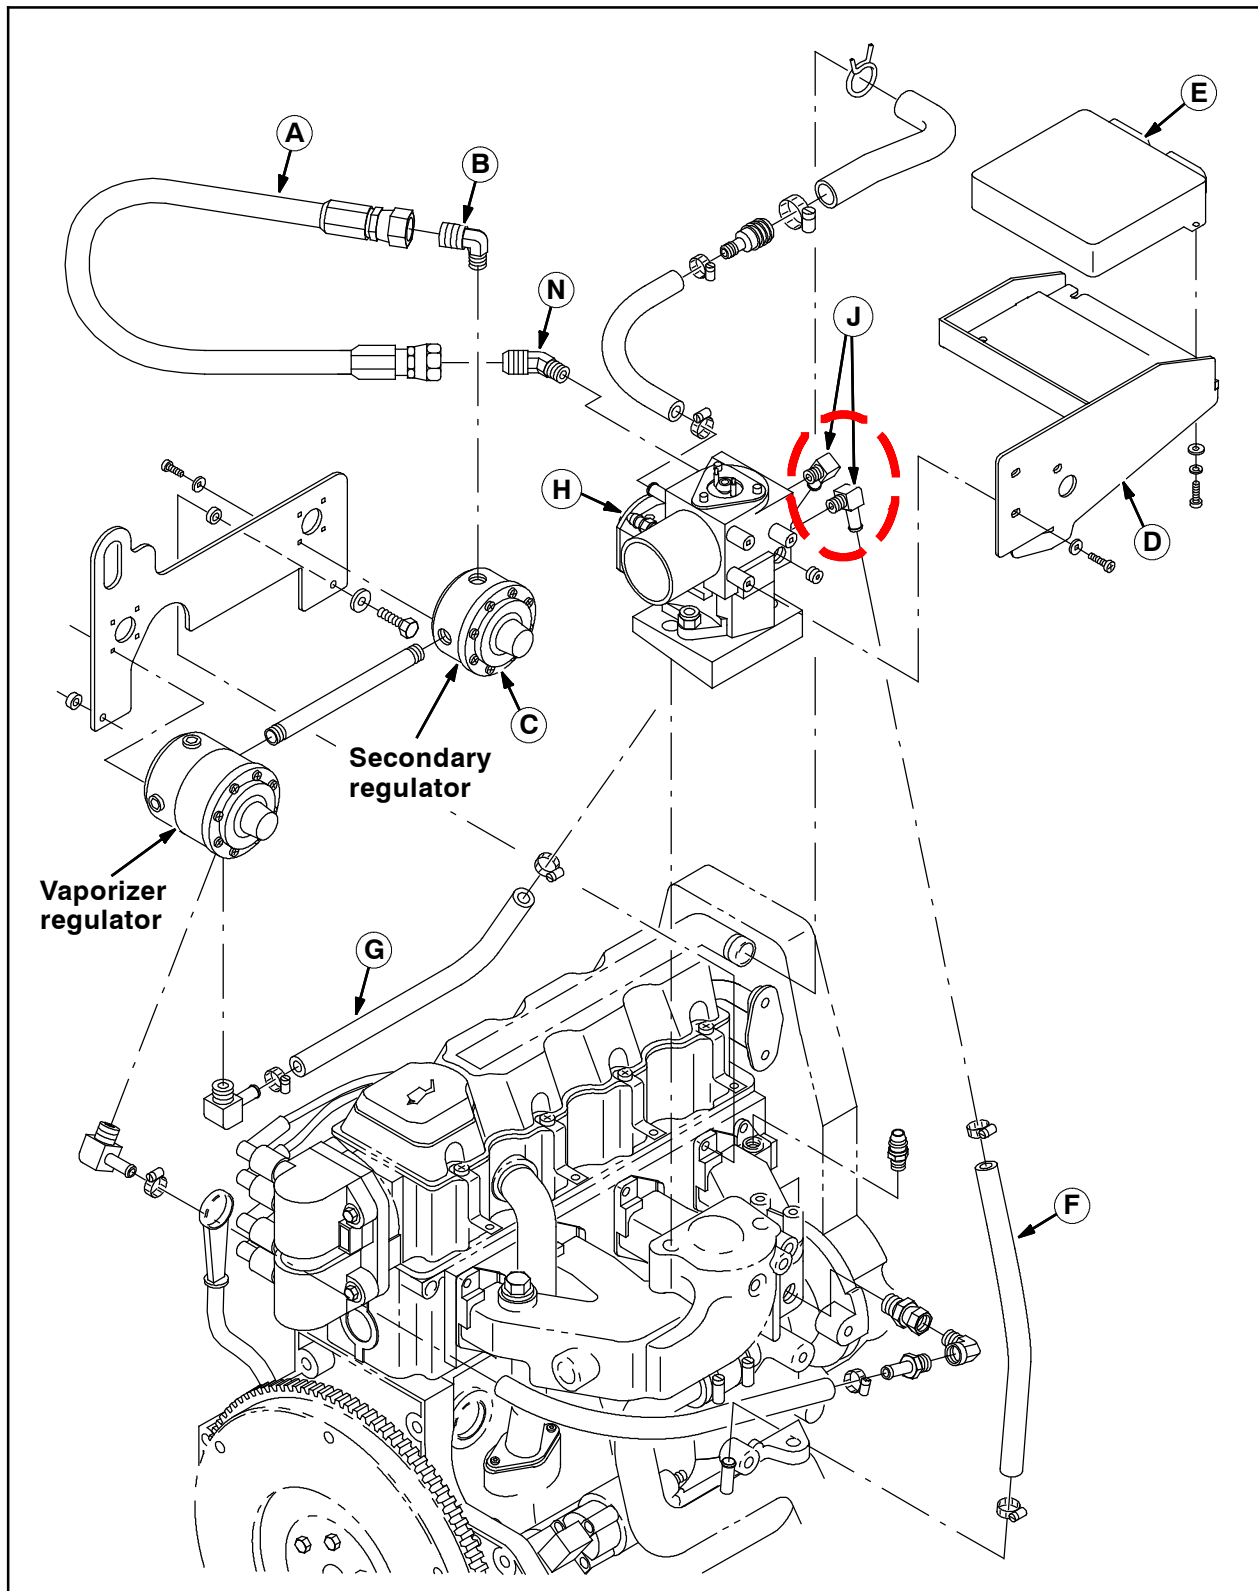

FIG. 4
18. Remove the drain plugs from the bottom of the vaporizer regulator and secondary regulator, and allow the regulators to drain. Refer to Fig. 4.
19. Reinstall the drain plugs into the vaporizer regulator and the secondary regulator when through draining. Refer to Fig. 4.
1. Remove the LPG hose (A) from the machine. Discard the LPG hose. Refer to Fig. 4.
2. Remove fitting (B) from the regulator assembly (C). Discard fitting (B). Refer to Fig. 4.
4. Remove the controller bracket (D) from the machine. Refer to Fig. 4.
5. Remove the controller (E) from the controller bracket (D). Discard the controller (E). Refer to Fig. 4.
6. Disconnect coolant hoses (F) and (G) from the throttle housing (H). Do not completely remove these hoses from the machine. Refer to Fig. 4.
7. Remove both fittings (J) and fitting (N) from the throttle housing (H). Discard fittings (J) and (N). Refer to Fig. 4.
50. Route the hose from the lower radiator (F) up to the loose end of the hose attached to the bottom vaporizer regulator. Refer to Fig. 4 for location of hose from lower radiator.